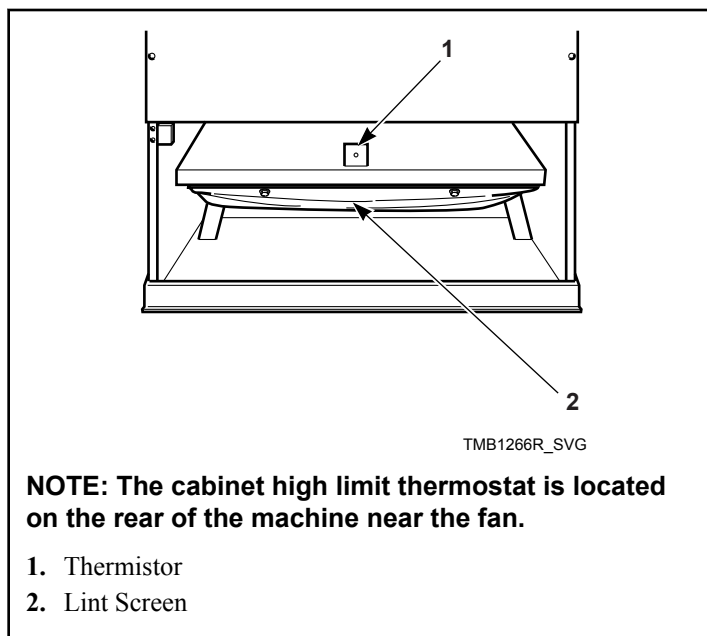

Figure 49
- e. Wipe lint off of the cabinet high limit thermostat and thermistor. Refer to *Figure 49*.